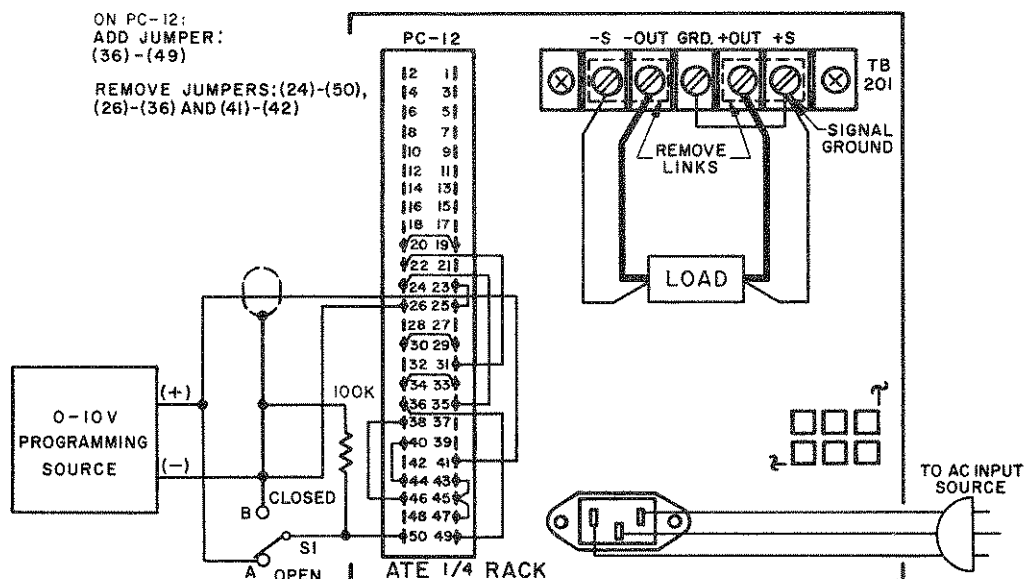

FIG. 3-15 CONNECTIONS FOR SIMULTANEOUSLY PROGRAMMING THE ATE OUTPUT VOLTAGE AND THE CROWBAR LEVEL (AUTOMATIC TRACKING).
- 1) Connect jumpers on the REAR PROGRAMMING CONNECTOR as indicated in FIG. 3-15 and connect switch (S1) as shown. Turn front panel CROWBAR LEVEL control fully counterclockwise.
- 2) Connect a substitute LOAD and the EXT. PROGRAMMING SOURCE as shown in FIG. 3-15.
- 4) Remove S1, and connect a jumper between (41)-(50) of PC-12. Connect the actual LOAD, reactivate the ATE circuit breaker and commence operation. Should erratic triggering occur in actual operation, set front panel CROWBAR LEVEL control slightly clockwise. This will increase the "threshold" voltage; that is, the difference voltage between the crowbar level and the operating voltage.